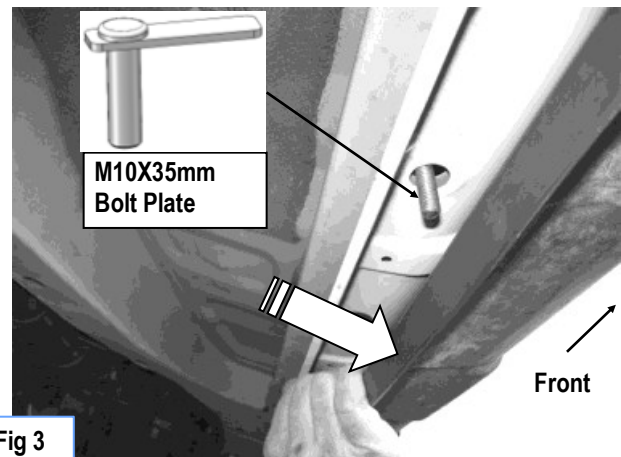

Fig 3
Mark the position of the factory hole onto the plastic trim panel. Drill through hole on the plastic panel carefully by using a 7/16" drill bit (**Fig 3 & 4**).
Gently pull the cover aside to insert (1) M10X35mm Bolt Plate into the factory hole in the body panel, (**Fig 3**). Once the Bolt Plate is in place, reposition the plastic rocker panel over the Bolt Plate and into the original position, (**Fig 4**). Secure with factory clips and metal screw.